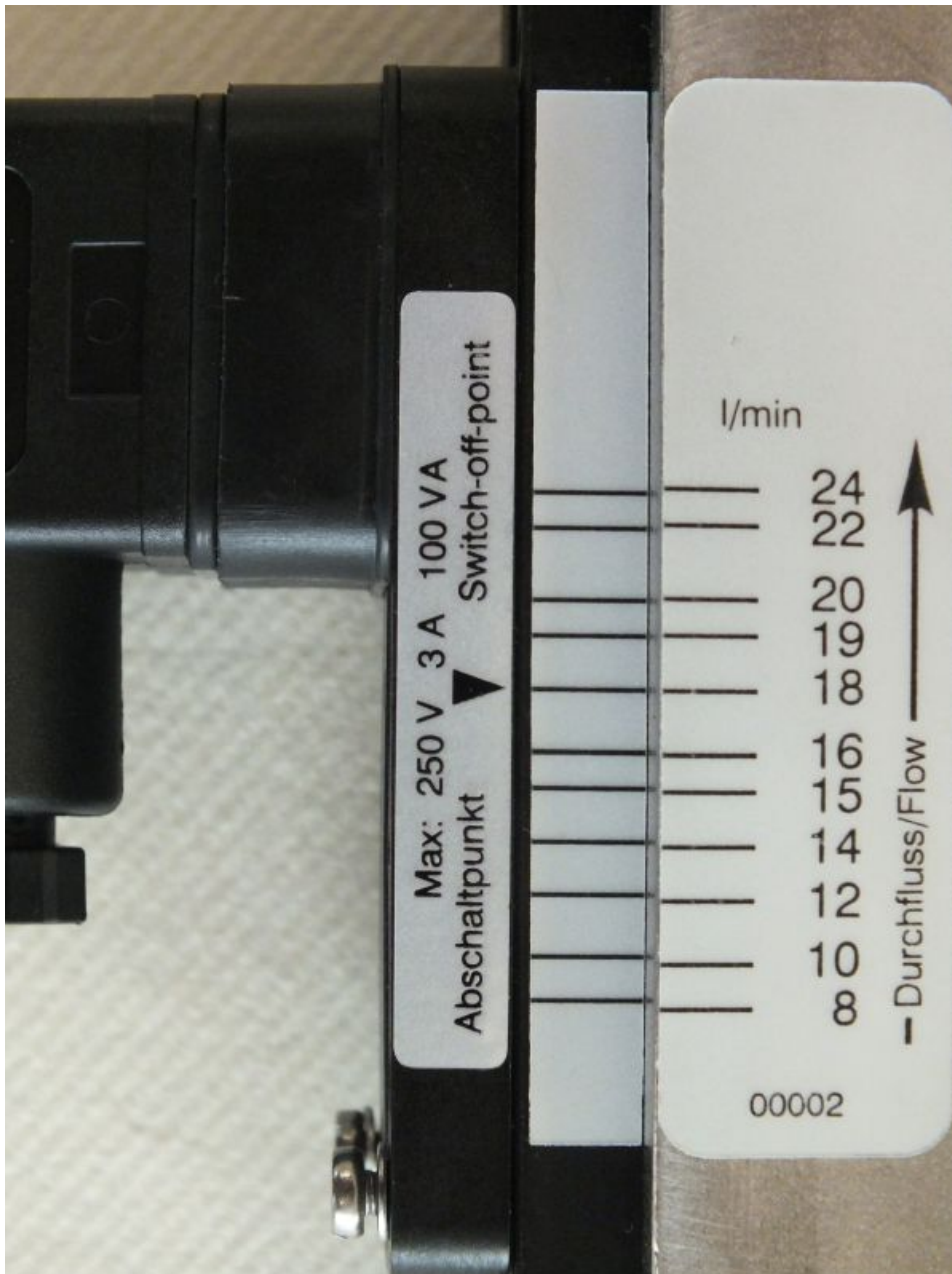

Fig. 40: Reading-off the switch point (example)
1. Make sure that the setting arrow, the scale mark on the additional label on the guide rail and the scale mark of the switch point adjustment scale are in alignment. (Fig. 40)